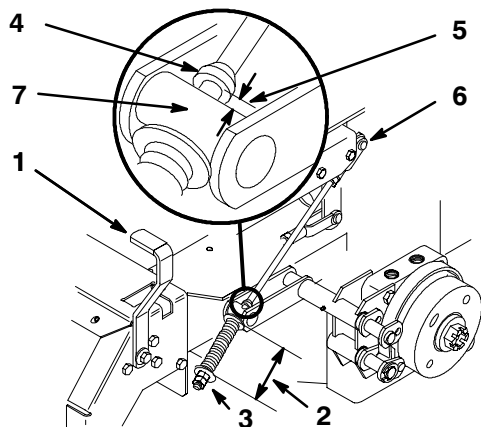

Figure 67
2. Measure the length of the spring. Measurement should be 2.75 in. (70 mm) between washers (Fig. 67).
3. If adjustment is necessary, loosen the jam nut below the spring and tighten the nut directly below the yoke (Fig. 67). Turn the nut until the correct measurement is obtained. Tighten the two nuts together and repeat on opposite side of unit.
6. Measure the distance between the trunnion roller and the collar on brake rod. Measurement should be 3/16-1/4 in. (5-7 mm) (Fig. 67).
7. If adjustment is necessary, loosen the jam nut directly below the yoke. Turn the bottom adjusting nuts until the correct measurement is obtained (Fig. 67). Tighten jam nut at yoke.